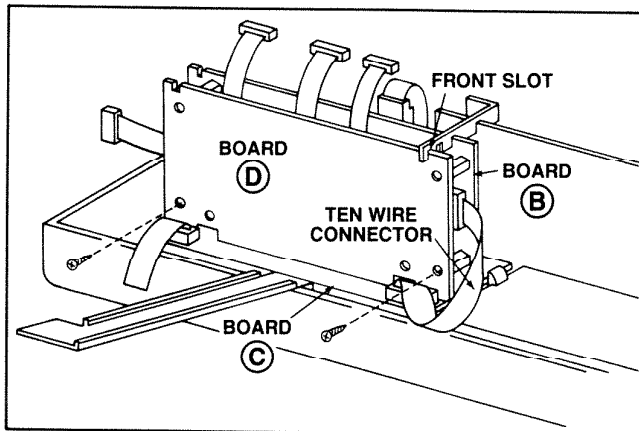

FIGURE 11
5. Install Board (D) supplied with kit. Refer to Figures 11 and 12.
- (a) Insert right top corner of Board (D) into front slot of upper right retaining bracket. See Figure 11.
- (b) Secure Board (D) to the lower board spacers of Board (B) with two (2) phillips head screws supplied. See Figure 11.
- (c) Plug the ten (10) wire connector from Board (C) into matching plug on right side of Board (D). See Figure 11.